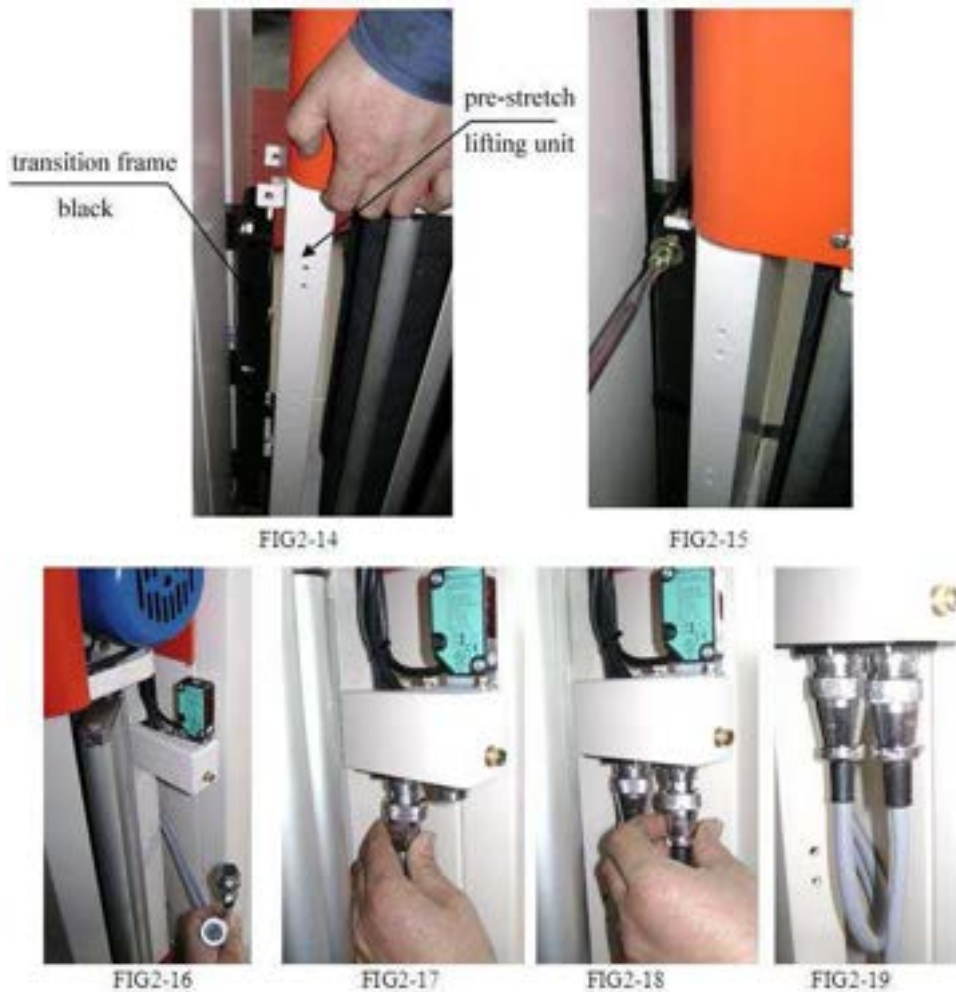

Fig. 2-6
Step 4a (*Eagle 1000B*) – Remove M8 screws from rear of carriage. Affix the carriage onto the corresponding position on the mast and fasten with four M8 bolts. Insert the connector plugs on the front of the carriage into the receptacles. Do not force the connectors together. (See Fig. 2-6)